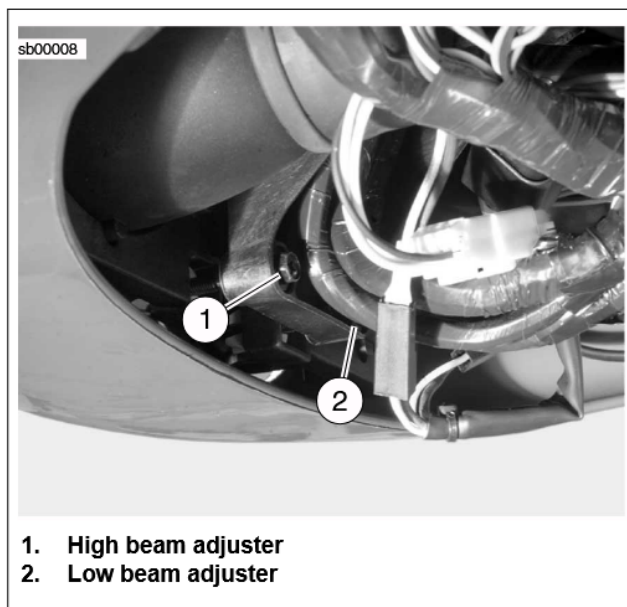

Figure 7. Headlight Height Adjusters (US/CAN/EUR model shown)
See Figure 7. HIGH beam and LOW beam have independent adjuster screws located beneath the front fairing.
- d. See Figure 7. To lower beam, turn low beam adjuster (2) clockwise. To raise beam, turn adjuster counterclockwise.
- c. See Figure 7. To lower beam, turn high beam adjuster (1) clockwise. To raise beam, turn adjuster counterclockwise.